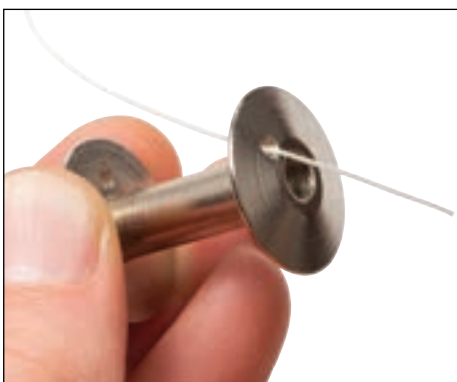

Figure 13
1. Bring the thread from the spool through the hole in the end of the Bobbin. (Figure 13)